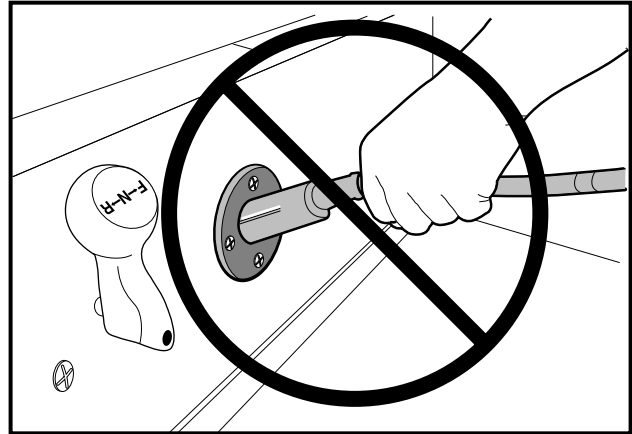

Figure 15 Incorrect Insertion of Charger DC Plug
- Do not pull on the DC cord (Figure 15, Page 32). Do not twist, rock or bend the plug. To disconnect the charger plug from the vehicle receptacle, grasp the plug by the handle and pull the plug straight out of the receptacle.